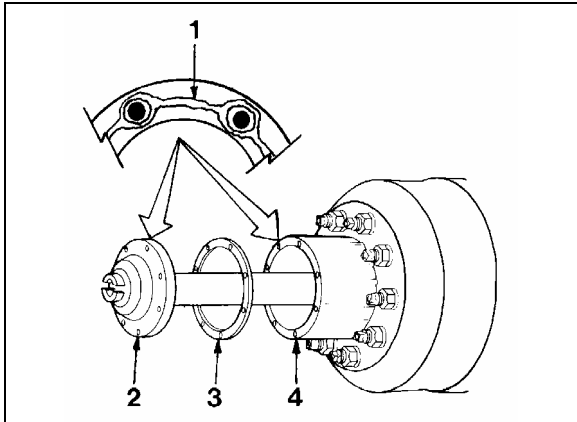

FIGURE 10: AXLE SHAFT INSTALLATION 11003
3. Install jacks under tag axle jacking points to support the axle weight (refer to figure 10).